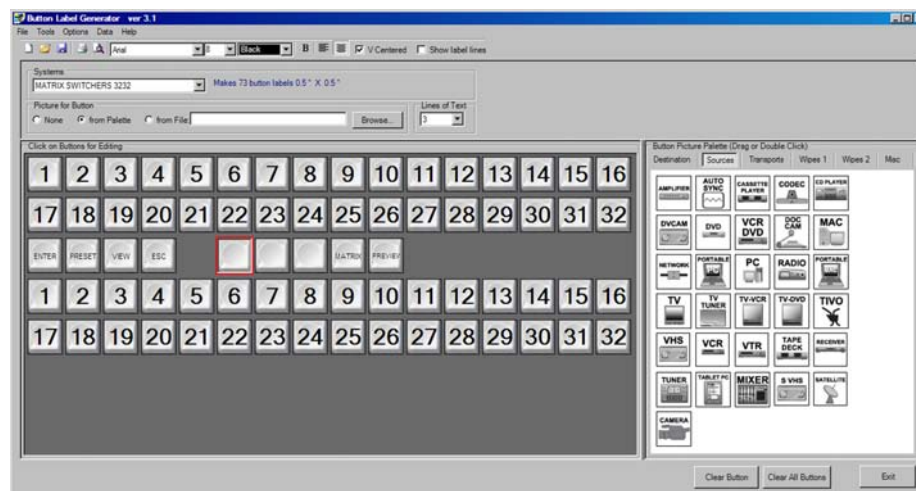

Figure B-1 — Button Label Generator window
1. To run the Button Label Generator program, double-click on the Button Label Generator icon (shown at right) in the Extron Electronics group or folder. The Button-Label Generator window appears (figure B-1).